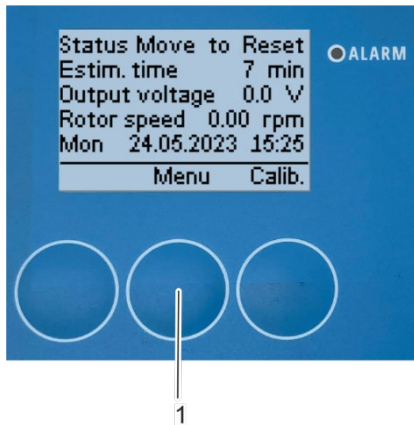
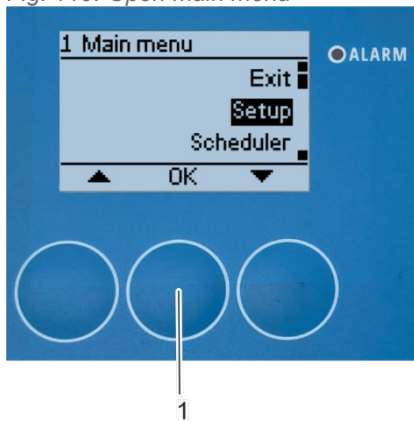

Fig. 119: Open main menu
Fig. 120: Select submenu “Setup”
1. Press *[Menu]* (Fig. 119/1) to open the “1 Main menu” menu (Fig. 120).
⇒ The “1 Main menu” menu appears on the display (Fig. 120).
2. Select the “Setup” submenu and confirm with *[OK]* (Fig. 120/1).